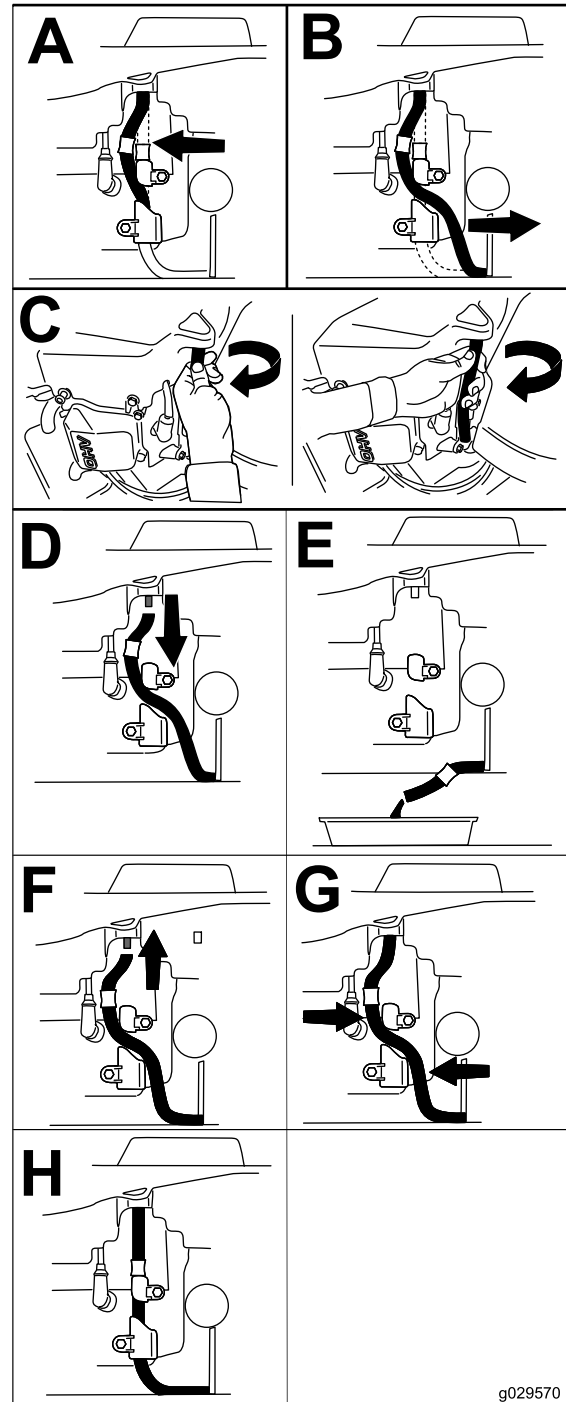

Figure 42
3. Drain the oil from the engine (Figure 42).